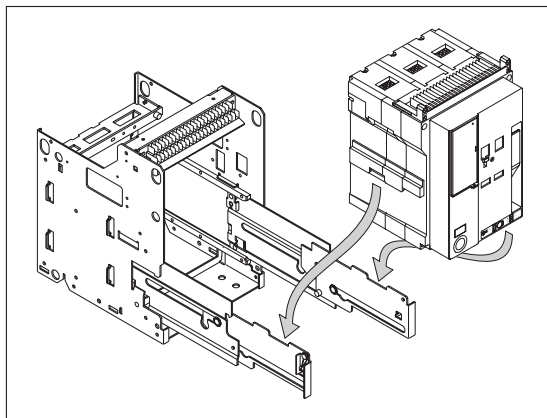

Fig. 2-43:
- ② Place the breaker on the rail as shown in fig. 2-43. Put the concave part of the breaker into the projection of the rail.